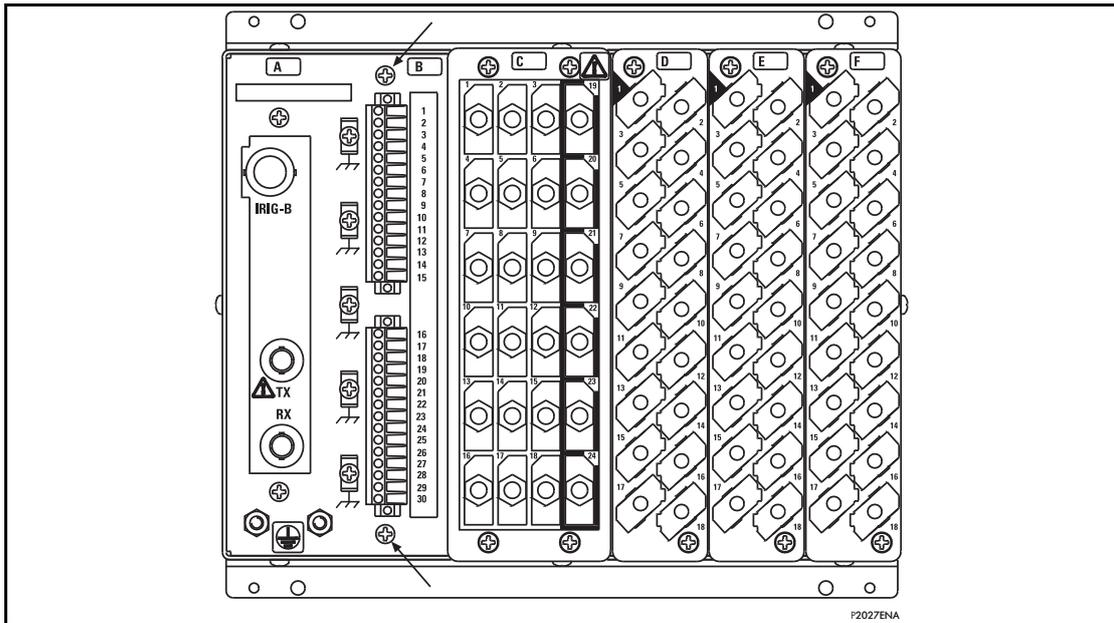

Figure 10: Location of securing screws for CLIO input board
1. To replace a faulty CLIO board, first remove the two 15-way terminal blocks. Each block is fastened to its other half by slotted screws above and below the row of terminals, as shown in Figure 10. Remove these screws carefully as they are not captive in the terminal blocks.
3. The CLIO board is secured in the case by two screws accessible from the rear of the relay, one at the top and another at the bottom, as shown in Figure 10. Remove these screws carefully as they are not captive in the rear panel of the relay.